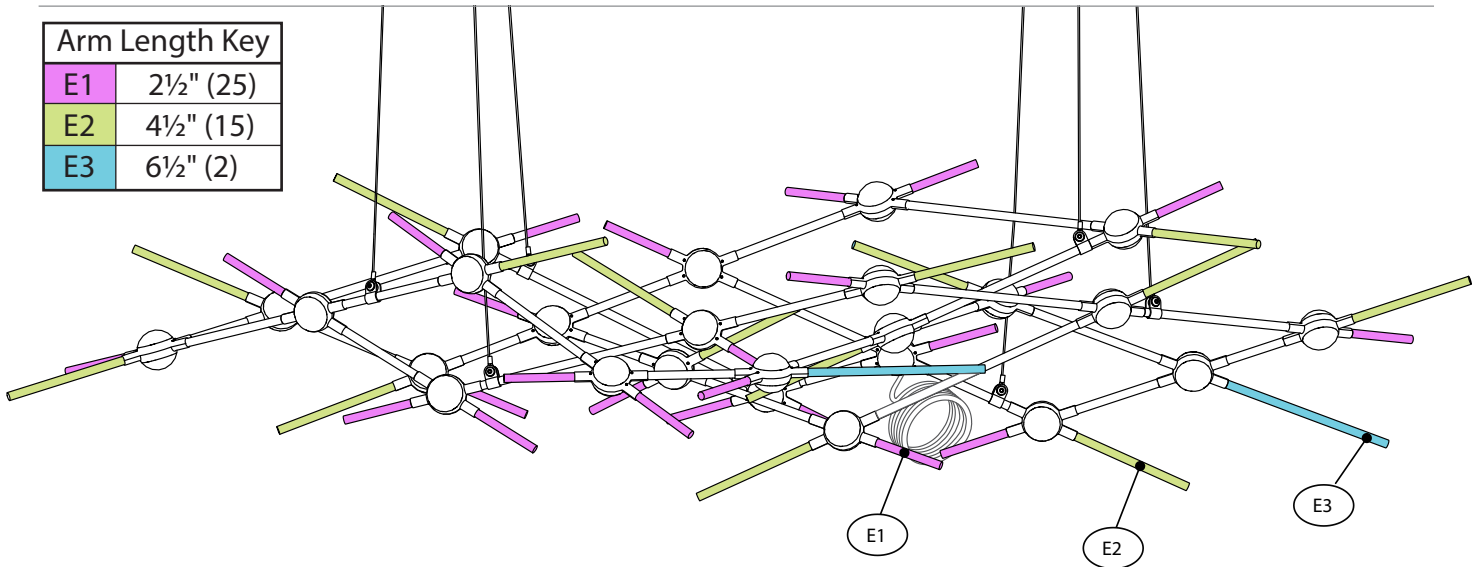

Fig. 10a - Front View
- Build this section using the End Arms from the Section 6 boxes (3).
- Start by connecting the E3 End Arms (2) as indicated in Figs. 10a/10b.
- Remove the Hub Labels (7) from Hubs 1c, 1e, 1f, 1g, 2c, 2d, and 3a.